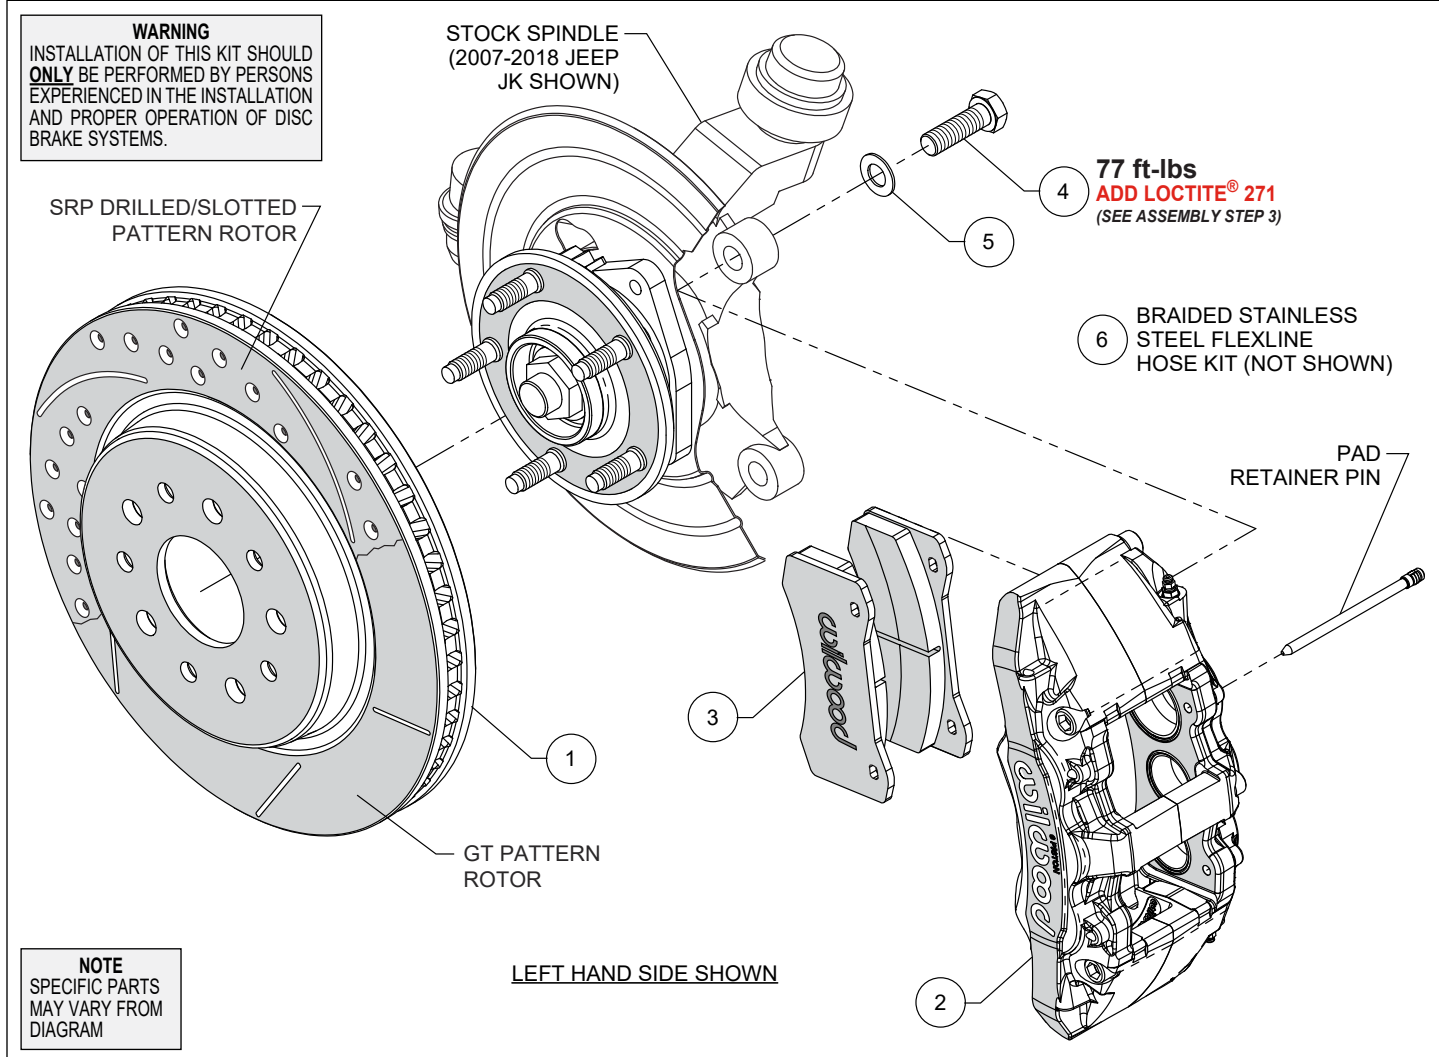

Figure 1. Typical Installation Configuration
Numbers in parenthesis refer to the parts list and Figure 1 on the preceding pages.
STEP 1 Slide the rotor (1) onto the hub. **NOTE:** The rotor must fit flush against the hub flange or excessive rotor run out may result. Install three lug nuts (finger tight) to keep the rotor in place while continuing with the installation, Photo 2.
STEP 2 Remove the two pad retaining pins from the caliper (2), Figure 1. Insert the brake pads (3) into the caliper, with the friction material facing the rotor, as shown in Photo 3. Secure the brake pads in place with the pad retaining pins, Figure 1 and Photo 3. **CAUTION:** Ensure pad retaining pins are completely engaged into caliper, Photo 4. It is recommended to use a small flat punch and hammer to tap the pins in until they are fully seated.
STEP 3 **NOTE:** This kit contains distinct right and left hand calipers that must be mounted in a specific direction, as described below. Ensure that the caliper is mounted so the largest pistons are at the rotor exit end of the caliper, in relation to the forward direction of the rotor. Mount the caliper (2) onto the OEM caliper mounting bosses of upright using bolts (4) and washers (5), as shown in Figure 1 and Photo 5. Apply red *Loctite*® 271 to bolt threads, and torque to value shown in Figure 1.